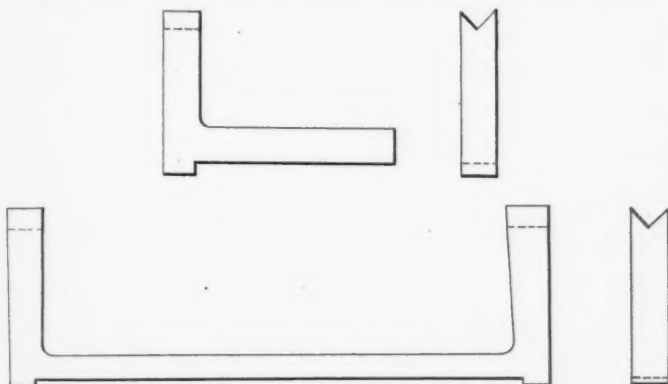

Fig. 7—Method of Repairing Frame Breaks in the Lower Bar Near Pedestal.
C. V. Landrum (N. C. & St. L., Nashville, Tenn.)—A successful method of repairing frames that are broken in the bottom rail close to the jaw is shown in Fig. 7. We cut the rail